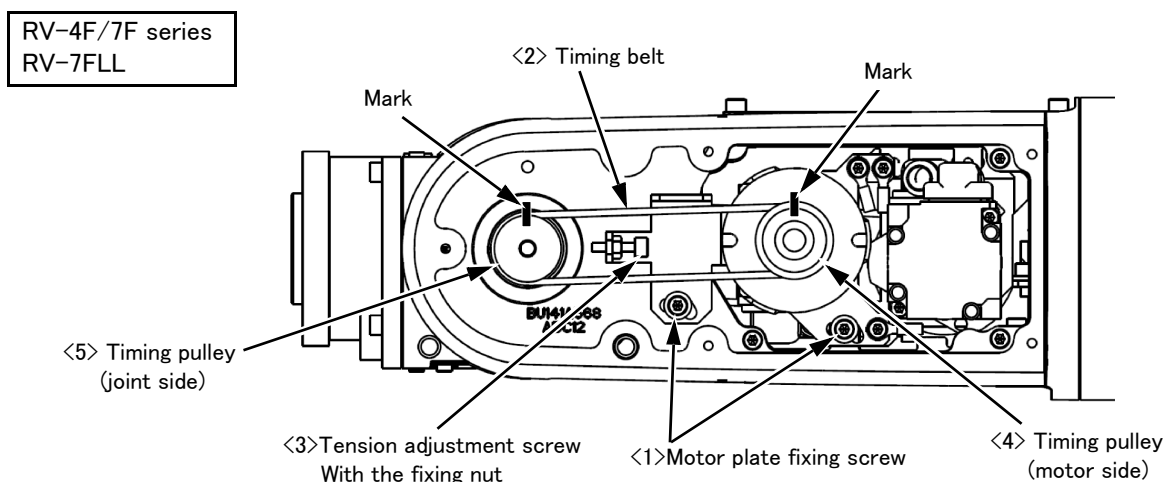
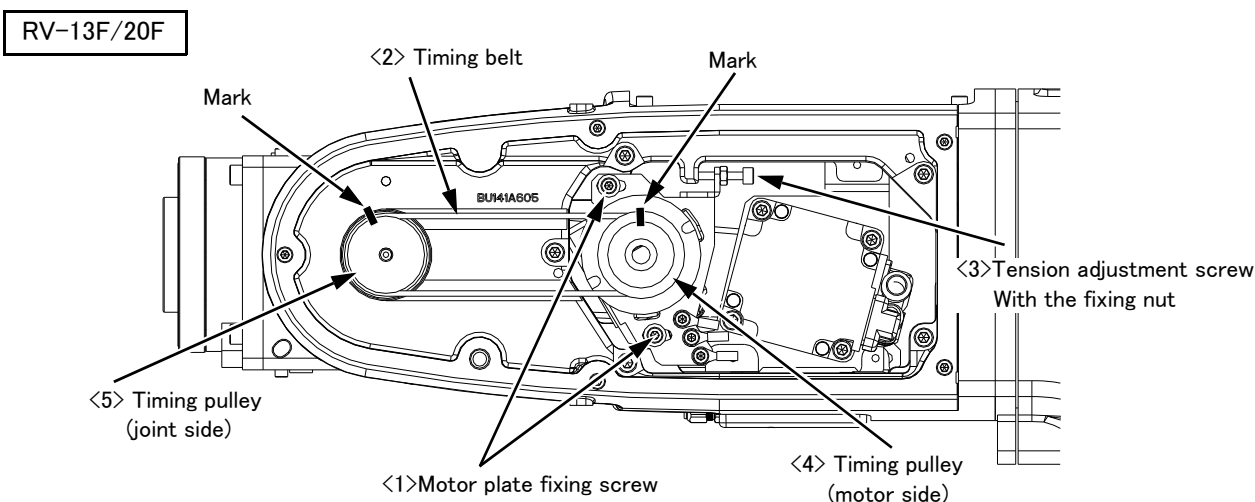

Fig.5-12 : Inspection, maintenance and replacement of J6 axis timing belt (RV-4F/7F series, RV-7FLL)
Fig.5-13 : Inspection, maintenance and replacement of J6 axis timing belt (RV-13F/20F)
The reference figure at inspection, adjustment, and replacement of the timing belt is shown in Fig. 5-12 (RV-4F/7F series, RV-7FLL) or Fig. 5-13 (RV-13F/20F).
- 3) Make marks on the timing belt <2> and timing pulleys <4> and <5> with a felt-tip pen as shown in Fig. 5-12 (RV-4F/7F series, RV-7FLL) or Fig. 5-13 (RV-13F/20F), so that the engagement of the timing belt <2> and timing pulleys <4> and <5> does not deviate.